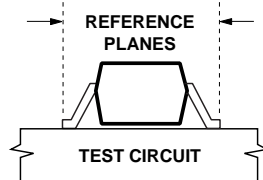

Figure 11. Reference Planes.
4. Reference plane per Figure 11 in Applications Information section.
The positions of the reference planes used to measure S-Parameters and to specify  $\Gamma_{\text{opt}}$  for the Noise Parameters are shown in Figure 11. As seen in the illustration, the reference planes are located at the extremities of the package leads.